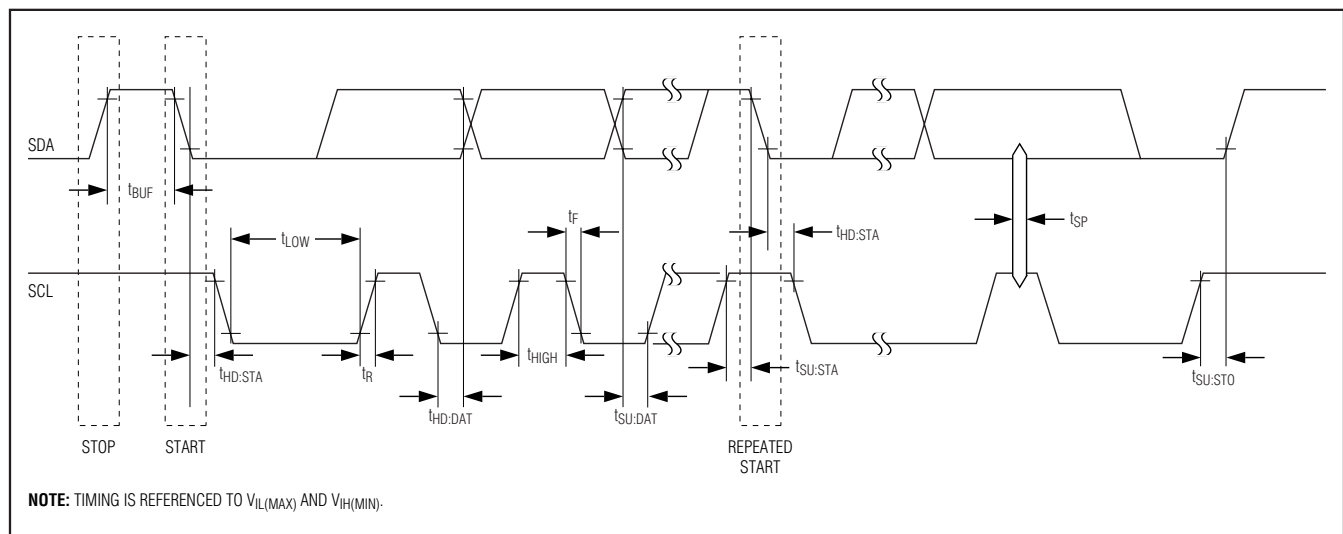

Figure 2. I2C Timing Diagram
The following terminology is commonly used to describe I2C data transfers. (See Figure 2 and the I2C AC Electrical Characteristics table for additional information.)
**Acknowledge (ACK and NACK):** An Acknowledge (ACK) or Not Acknowledge (NACK) is always the 9th bit transmitted during a byte transfer. The device receiving data (the master during a read or the slave during a write operation) performs an ACK by transmitting a 0 during the 9th bit. A device performs a NACK by transmitting a 1 during the 9th bit. Timing for the ACK and NACK is identical to all other bit writes (Figure 2). An ACK is the acknowledgment that the device is properly receiving data. A NACK is used to terminate a read sequence or indicates that the device is not receiving data.